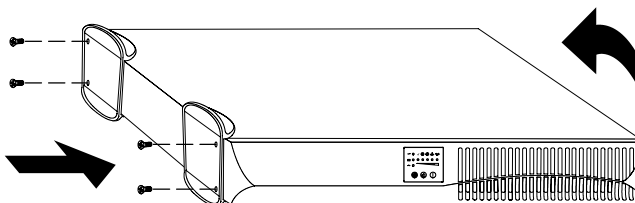

Figure 6. Installing the UPS Pedestals
2. Place the UPS horizontally so that the left end of the cabinet is accessible (see Figure 6).